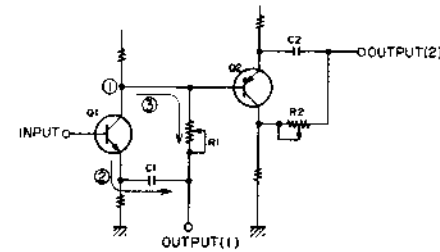
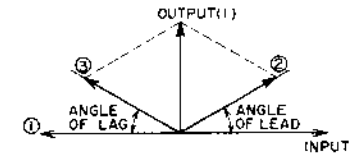

Fig. 20
Fig. 21
As can be seen from Fig. 20, when the reverse of the input signal (1) is passed through an integration circuit consisting of R1 and C1, phase lag occurs as illustrated at (3) in Fig. 21. On the other hand, the input signal is passed through the EF circuit and then through a differential circuit consisting of C1 and R1, resulting in the signal phase as illustrated at (2). Thus, the resultant output is as shown in Fig. 21; i.e., the signal that has a phase lead of 90° over the input is obtained. In the similar manner, for output (2), the signal which has a phase lag of 90° with reference to the input is obtained.